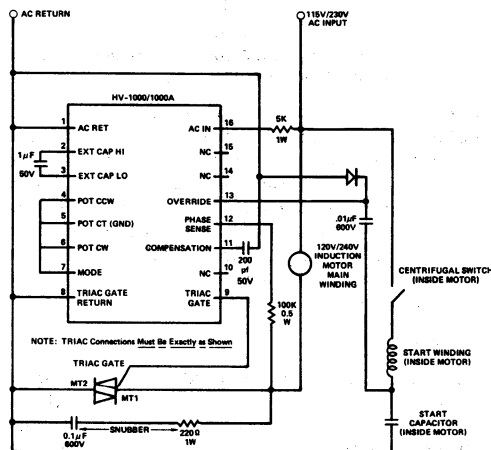

Figure 9.
- a) If a motor is driving a light load, so the time constant capacitor is fully charged, and switched off momentarily while a full load is applied; then, when the motor is switched on again, the HV-1000 may "soft start" for a fraction of a second. This tendency can be minimized by using a larger time constant capacitor and by increasing the load anticipator sensitivity with an external potentiometer or resistor. If the behavior is frequent and totally unacceptable, a complete fix is to use the application circuit for electronic override shown in Figure 9. Here the 100kohm resistor which sends the line voltage to pin 13 is replaced by $0.01\mu F$ to the start capacitor of the motor. Thus all the time the starter winding is operating, the HV-1000 is commanded to full voltage, guaranteeing a full power start. Since the start capacitor terminals may be inside the motor, this circuit is best suited for motor manufacturers.